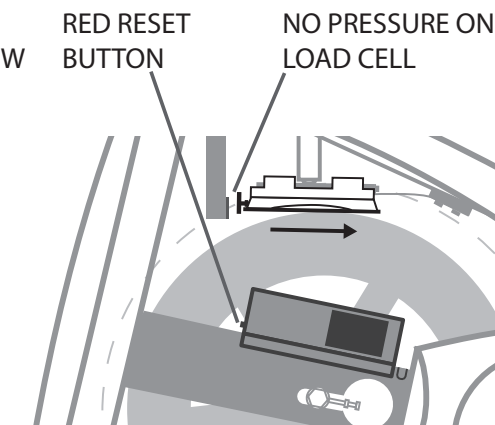

Figure 29
6: 0-calibrate the load cell by pressing the red reset button on the control box, see figure 29. Make sure nothing is pressing on the load cell when 0-calibrating.
2: Loosen the bolts (1) on both sides of the cycle with a 19mm wrench, see figure 29.